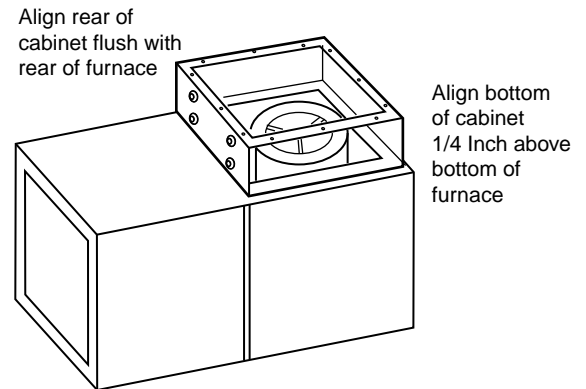

Figure 5. Installation on Side of Furnace
3. Align the rear of the air cleaner cabinet flush with the rear of the furnace. Align the bottom of the air cleaner cabinet 1/4 inch above the bottom of the furnace (see Fig. 5). Scribe a line on the furnace as a guide to cut the opening to match the inside of the air cleaner cabinet mounting flange. Move the cabinet and cut the opening.